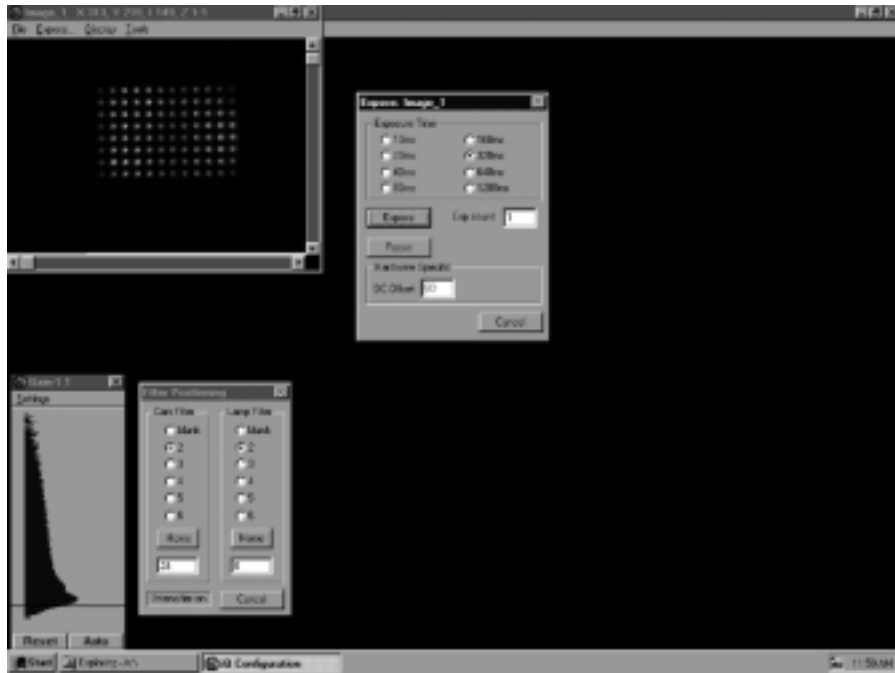

Fig. 6.2. iQ configuration window with a calibration plate image and the expose image dialog box.
5. From the menu bar at the top of the Image dialog box, select **Expose**. This displays the Expose: Image dialog box (see Figure 6.2).
6. In the Expose: Image dialog box, select an exposure time of **320 ms**, then click **Expose**. An image of the calibration plate will be displayed in the window (see Figure 6.2.)
4. From the menu bar at the top of the Image dialog box, select **Expose**. This displays the Expose: Image dialog box (see Figure 6.2).